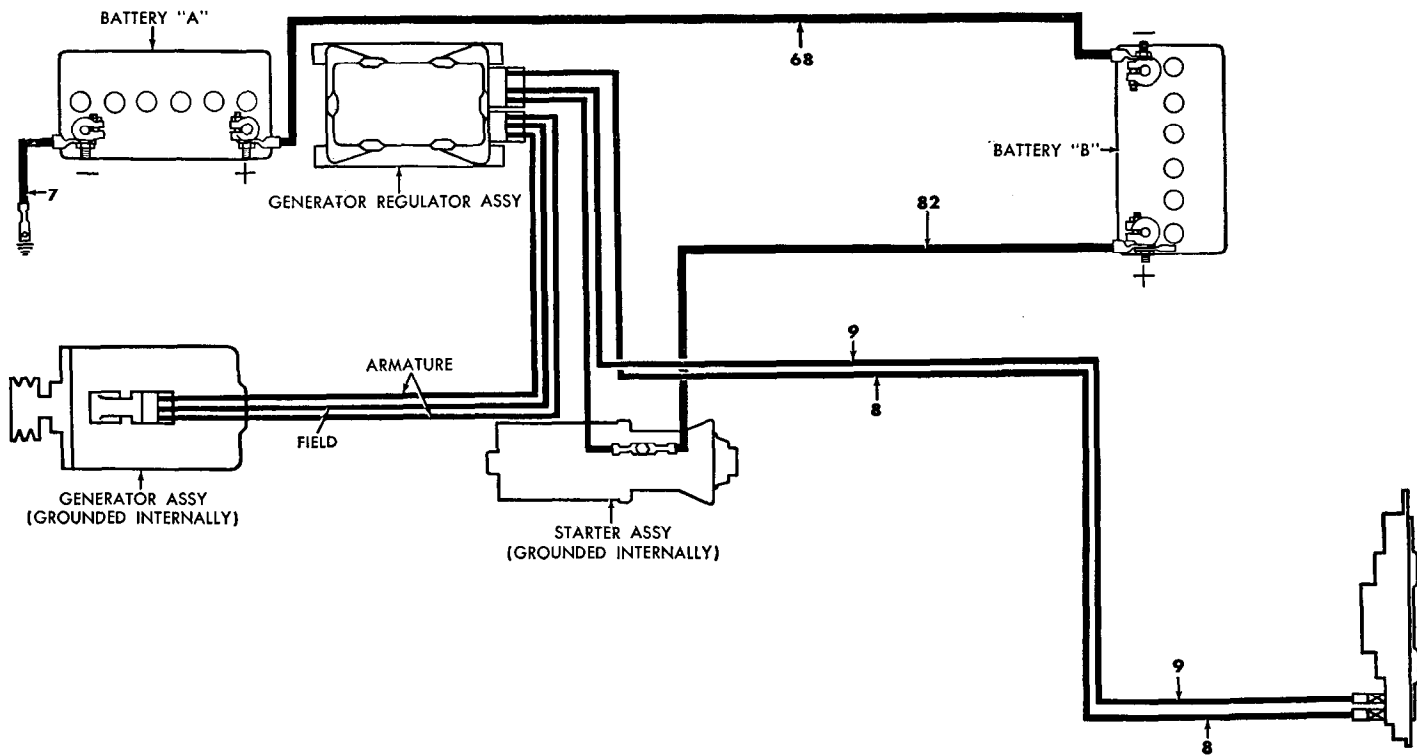

Figure 65. Generating system circuit.
- (1) *General.* The generating system (fig. 65) consists of the generator assembly, generator regulator assembly, batteries, and connecting cables. The system is sealed and waterproof. It is a 24-volt, single-wire system, designed to automatically increase or decrease the charging rate to keep the battery fully charged without overcharging.